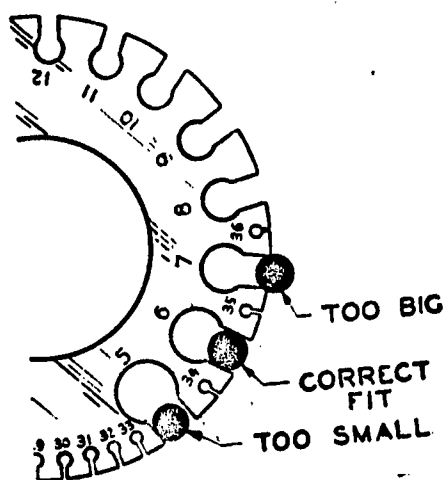

Fig. 2
1. Select the United Standard gage, the wire and sheet samples of iron, and steel. Measure each. How do they fit? See Fig. 2. Record your readings.